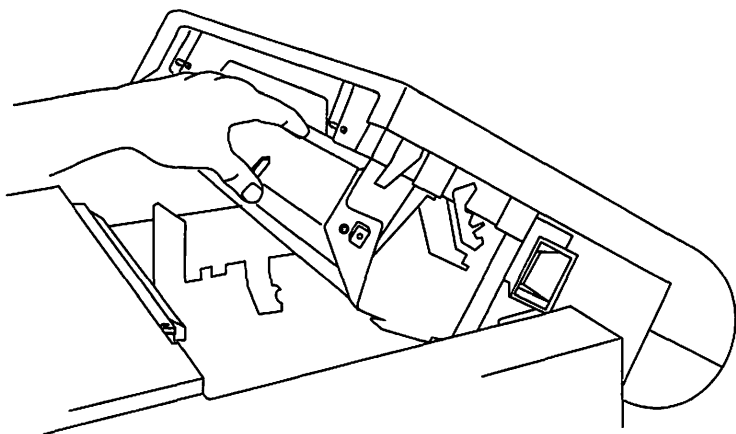

Figure 29 *Removing the toner cartridge.*
1. Remove the old toner cartridge by opening the LaserWriter cover and pulling out the cartridge as shown in Figure 29.